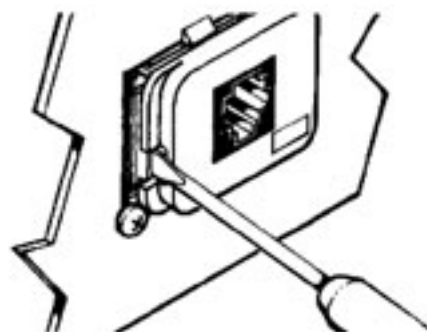

Figure 12
2. Insert a small screwdriver blade into the gap on the side of the insert (between the insert and the tab on the edge of the housing). As each latch disengages, rock the insert to release the side. See Figure 12.